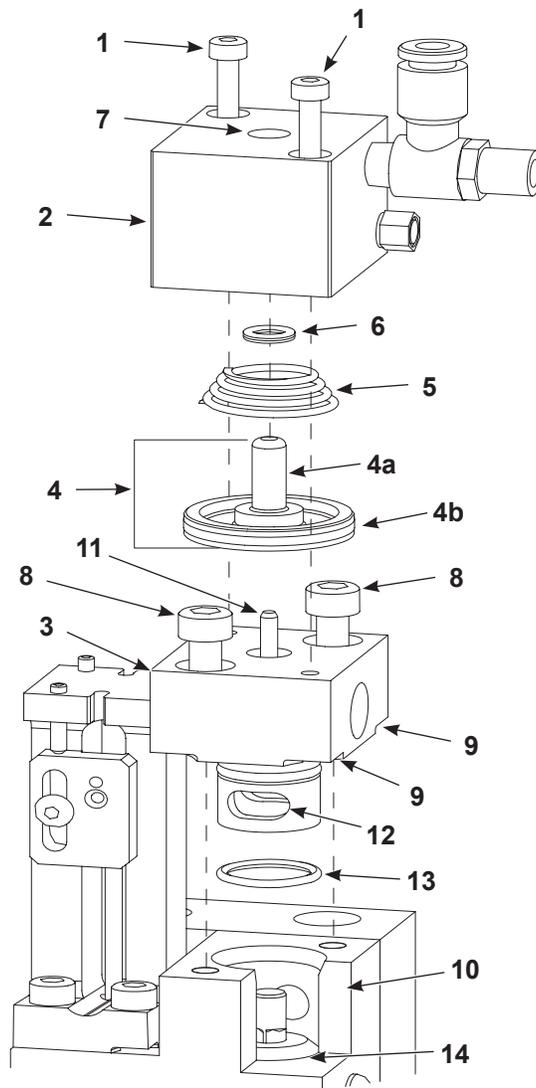

Figure 7 Repair Kits
See Figure 7.
**NOTE:** The Air Piston Kit includes items 4 and 6 shown in Figure 7.
1. Remove the two screws (1) and air cap (2) from the body. Clean the face (3) of the seal cap housing.
2. Remove the old piston (4), spring (5), and quad ring (6) from the air cap and discard the old piston.
3. Clean the air cap bore and the quad ring groove (7) with suitable solvent, such as isopropyl alcohol.
5. Install the new quad ring (6) in the groove (7).
7. Place the spring (5) onto the piston (4), as shown in Figure 7.
8. Install the piston (4) in the air cap (2).
9. Apply the thread-locking adhesive to the screws (1) while holding the air cap (2) against the seal cap (3) to compress the spring (5). Install the screws (1) and tighten to 27 in.-lb (3.05 N•m).